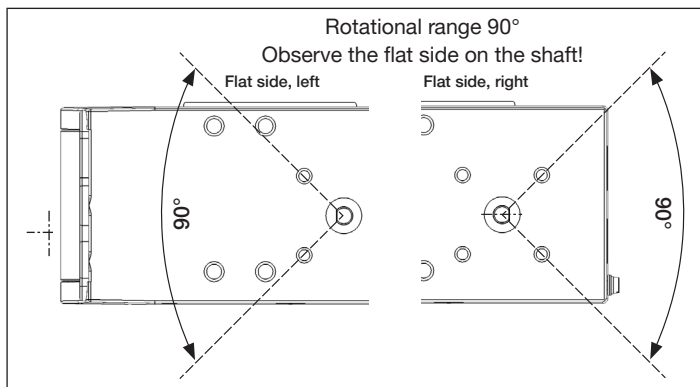

Fig. 17: Rotational range
- Align the flat side of the shaft to the rotational range (see “Fig. 17”).